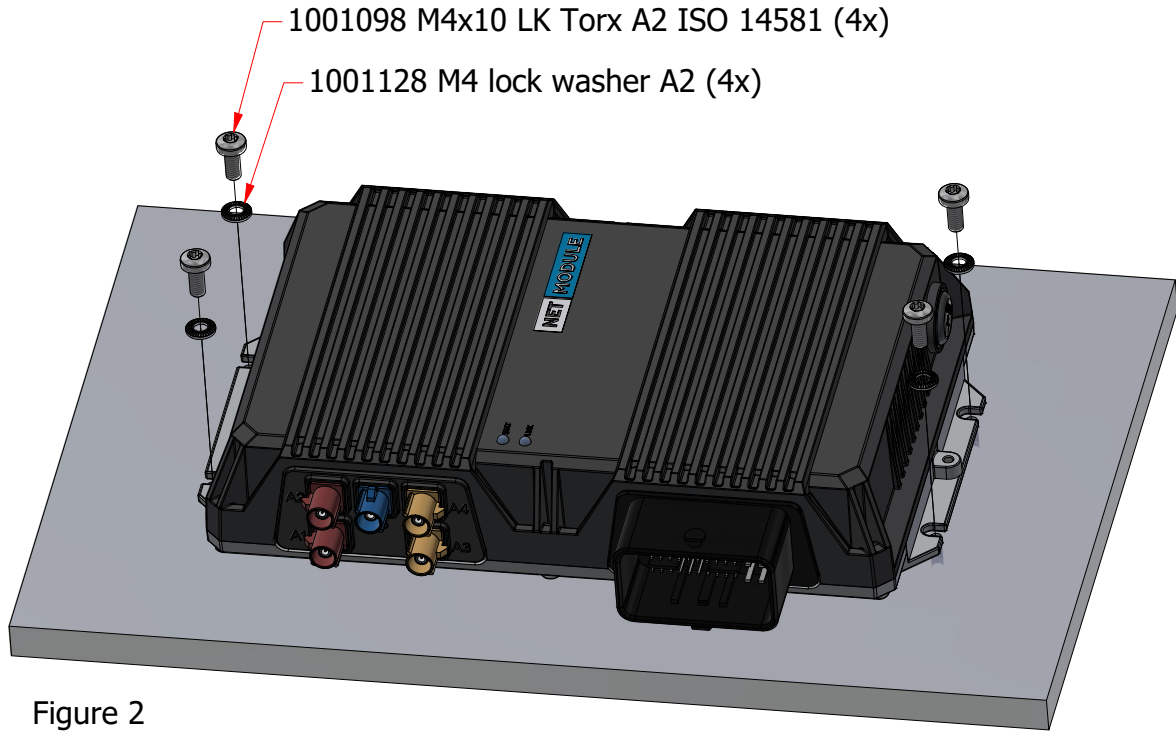

Figure 2
3.1 Place the screw and lock washer over the mounting hole (Figure 2)